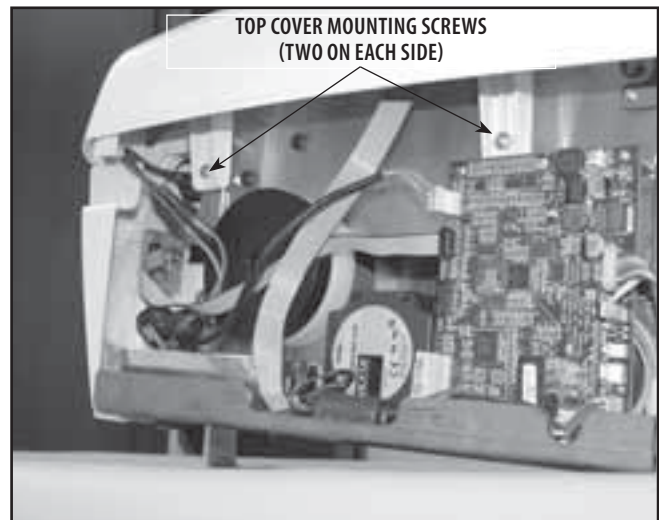

FIGURE 6.5
4. Using the #1 Phillips Screwdriver, remove the two Top Cover Mounting Screws from each side of the unit. See Figure 6.5.
2. Position the Top Cover Assembly onto the unit chassis. Secure into position on the standoffs with the four Top Cover Mounting Screws (two on each side). See Figure 6.5.